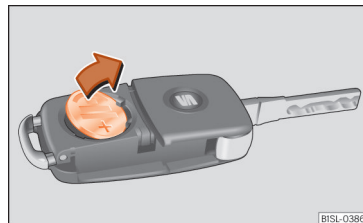

Fig. 101 Vehicle key: remove the battery. »
- Extract the battery from the compartment using a suitable thin object »»» Fig. 101.
- Place the new battery in the compartment, pressing in the direction of the arrow as shown »»» Fig. 101 »»» ❷.